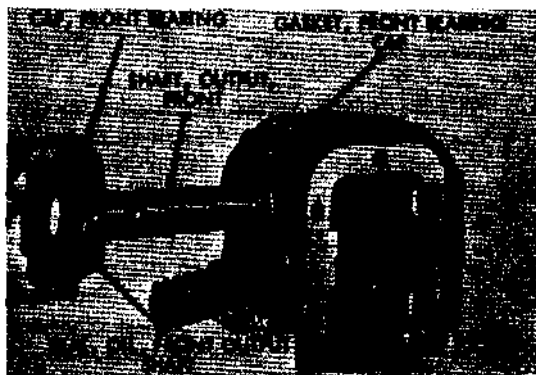

Figure 290. Removing front cap
b. Inspect for Lubricant Leakage. Visually inspect gasket joints and front-and rear-output-shaft oil seals. Refer to figure 290 for evidence of lubricant leakage. Leakage at gasket joints may be caused by loose mounting bolts or defective gaskets. Tighten all mounting bolts and if leakage continues, install new gaskets.
(4) Remove front output shaft.
- (a) Remove four cap screws and lockwashers holding front bearing cap (fig. 290) to case. Remove front bearing cap and front bearing cap gasket. Discard gasket. It is not necessary to remove front output-shaft oil seal from cap unless inspection (par. 207b) reveals replacement is necessary. To remove oil seal, drive out with suitable punch.